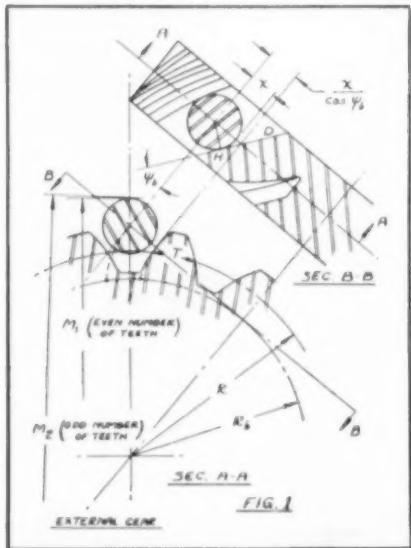

FIG. 1
Figure 1 illustrates two diagrammatic sections of a helical gear and
As will be noticed, here stated equation (3) is exactly the same as Professor Buckingham's well-known equation for spur gears except that the second expression is divided by the cosine of the base helix angle which is explained diagrammatically in Figure 1.